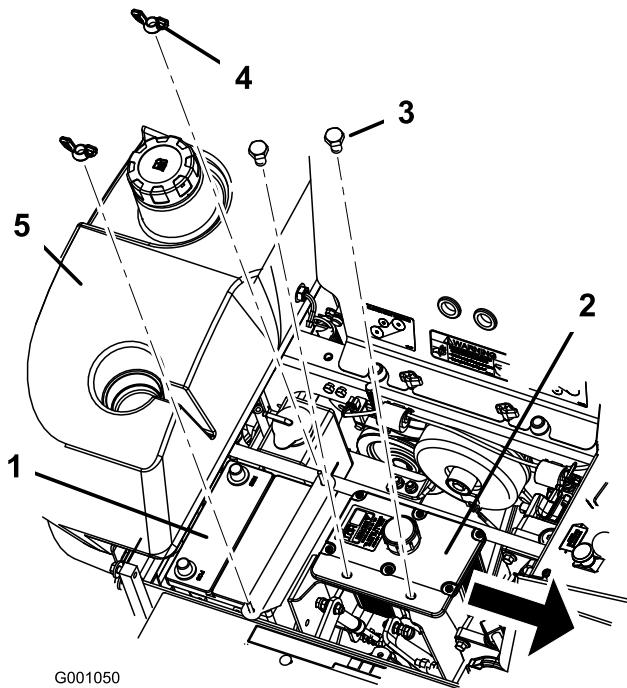

Figure 49
- Remove both wing nuts (1/4 inch) securing the battery clamp (Figure 49).
- Remove the two bolts holding the hydraulic tank in place (Figure 49).
6. Secure battery with J-bolts, hold down clamp and 2 washers (1/4 inch), and 2 wing nuts (1/4 inch) (Figure 49).